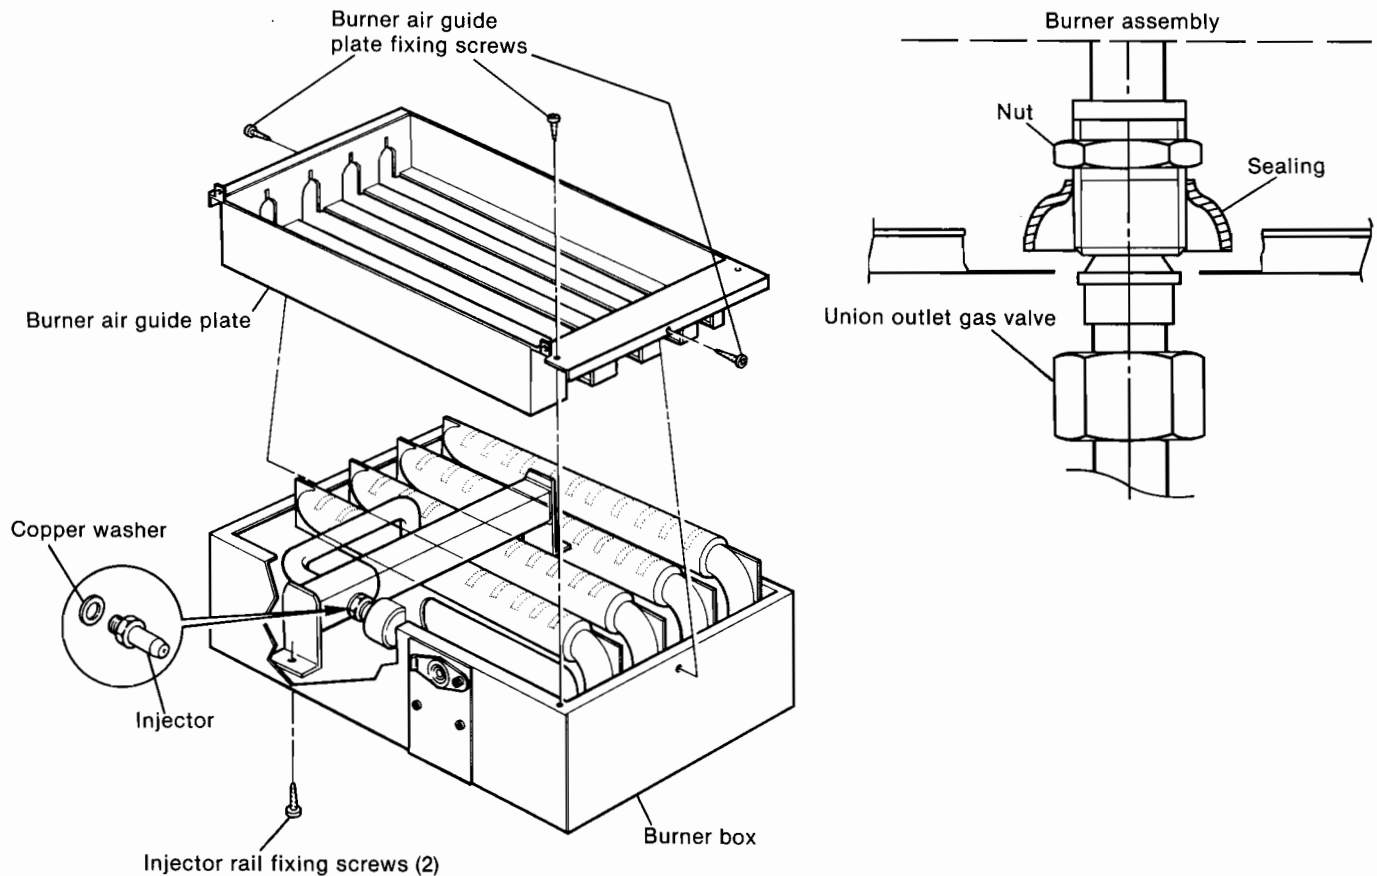

Fig. 48
- c) Unscrew burner inlet union connection (fig. 48).
- f) Remove the three screws securing the burner air guide plate (see fig. 48).
- g) Remove the two screws securing the injector rail (fig. 48) and remove the injector rail complete with burners.
- o) Re-assemble in reverse order. Refer to fig. 48 for replacement of spring rods and refer to wiring diagram fig. 25 for re-connection.
- h) Re-assemble in reverse order. (Refer to fig. 48 for replacement of spring clip and refer to fig. 25 for wiring). Ensure that the internal flue pipe is fixed to the top of the flue cowl.
- 2.6 Remove the combustion chamber front panel by unscrewing the two fixing screws (fig. 48).
- 2.7 Remove the two screws securing the burner assembly box (fig. 48).
- 2.19 Remove the spring clip securing the flue cowl to the flue and push the flue pipe upwards (fig. 48) and latch it in the flue to keep it out of the way.
- 2.20 Pull out the two fixing rods from the side of the flue cowl (fig. 48). Gently lift the flue cowl out.